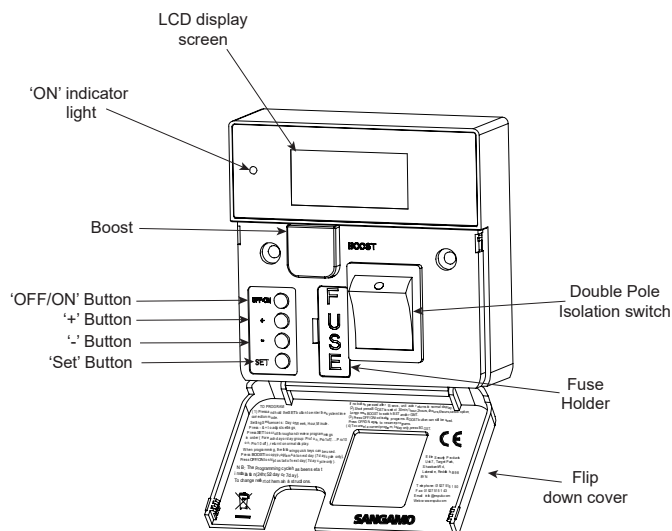

Figure C-1: Sangamo Plus PSPF247 Timer and Fused Spur
Before setting, put the double pole switch to the ON position, and then flip down the front panel to show the hidden panel, as shown in Figure C-1.
Complete the initial setting as follows (refer to Figure C-1):
Refer to Figure C-1.
If during a programmed "ON" period, you wish to turn the load OFF, press the BOOST button once (see Figure C-1). Press BOOST again to activate the Boost Function (refer to Section C.3).
To activate Holiday Mode, press the "OFF/ON" button once (see Figure C-1) (the LCD display will show "off" on-screen).
2. Press and hold the BOOST button (refer to Figure C-1) and switch the electrical supply to the unit ON.